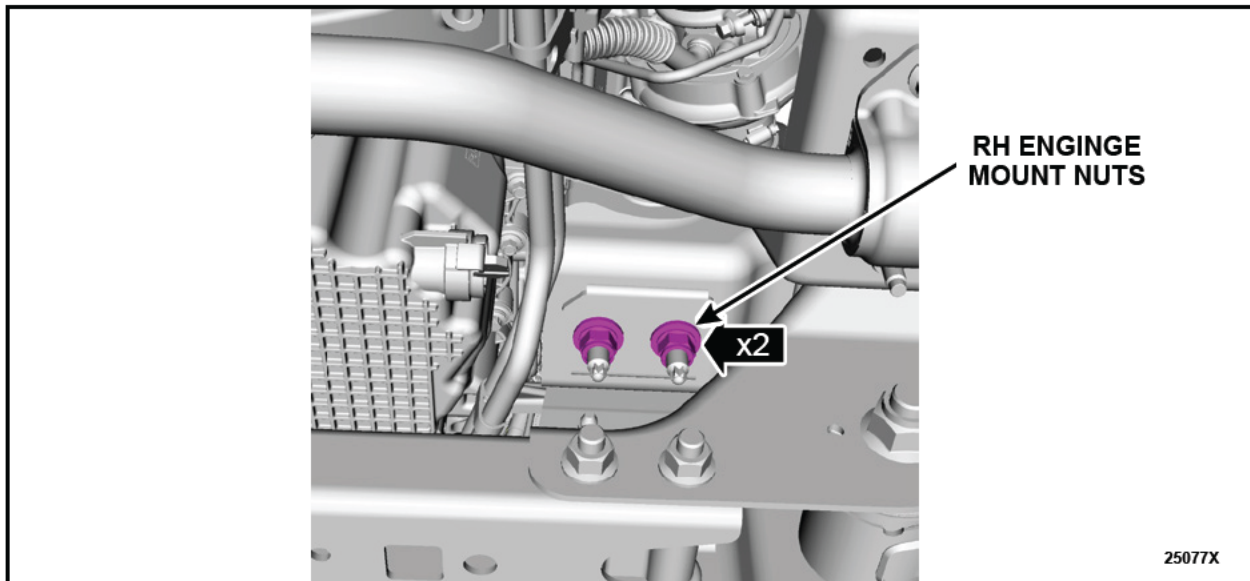

FIGURE 30
13. Install the new RH engine mount nuts. See Figure 30.